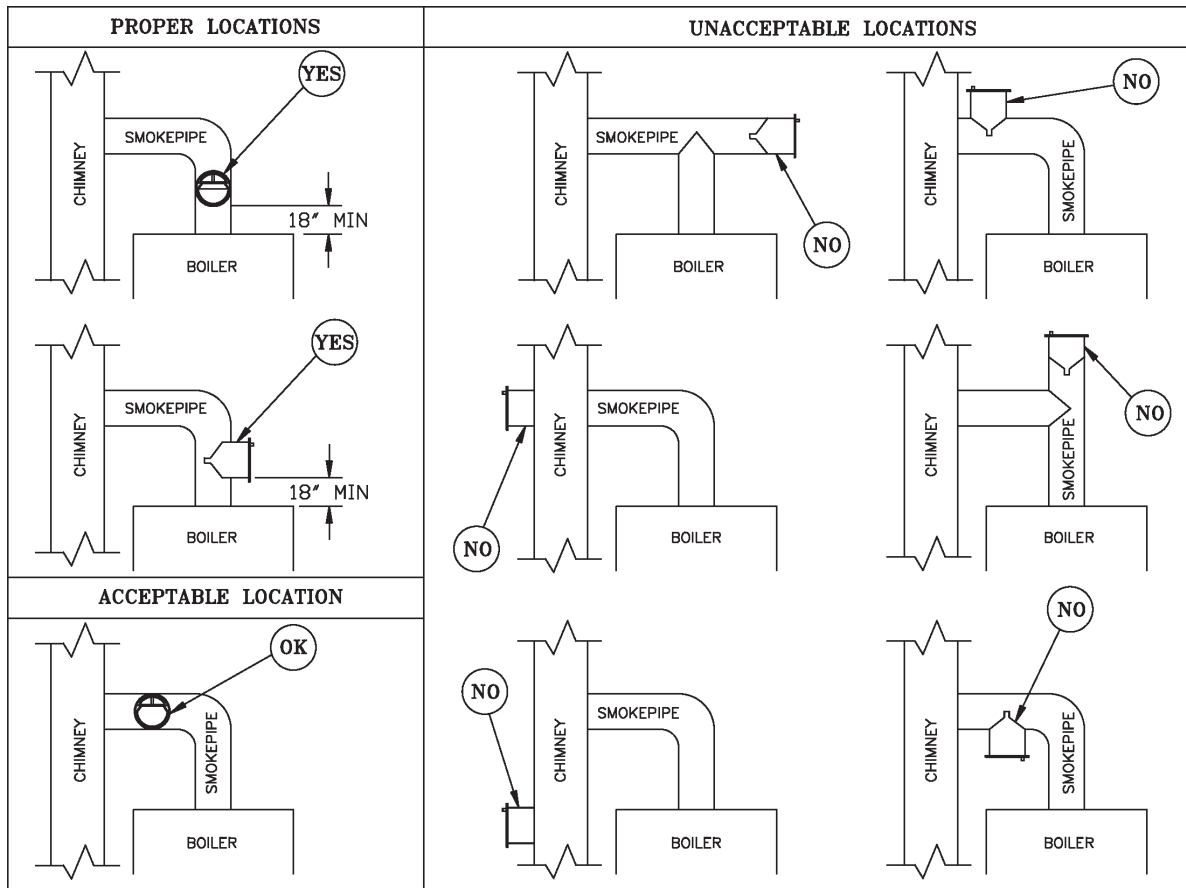

Figure 8: Proper and Improper Locations of Draft Regulator
1. Install a draft regulator following the instructions furnished with the regulator. See Figure 8 for draft regulator locations.